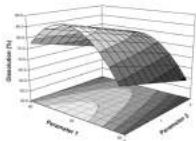
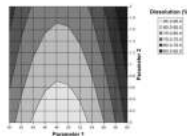

Figure 1a: Response surface plot of dissolution as a function of two parameters of a granulation operation. Dissolution above 80% is desired.
Figure 1b: Contour plot of dissolution from example 1a.
**Example 1:** Response graphs for dissolution are depicted as a surface plot (Figure 1a) and a contour plot (Figure 1b). Parameters 1 and 2 are factors of a granulation operation that affect the dissolution rate of a tablet (e.g., excipient attribute, water amount, granule size.)